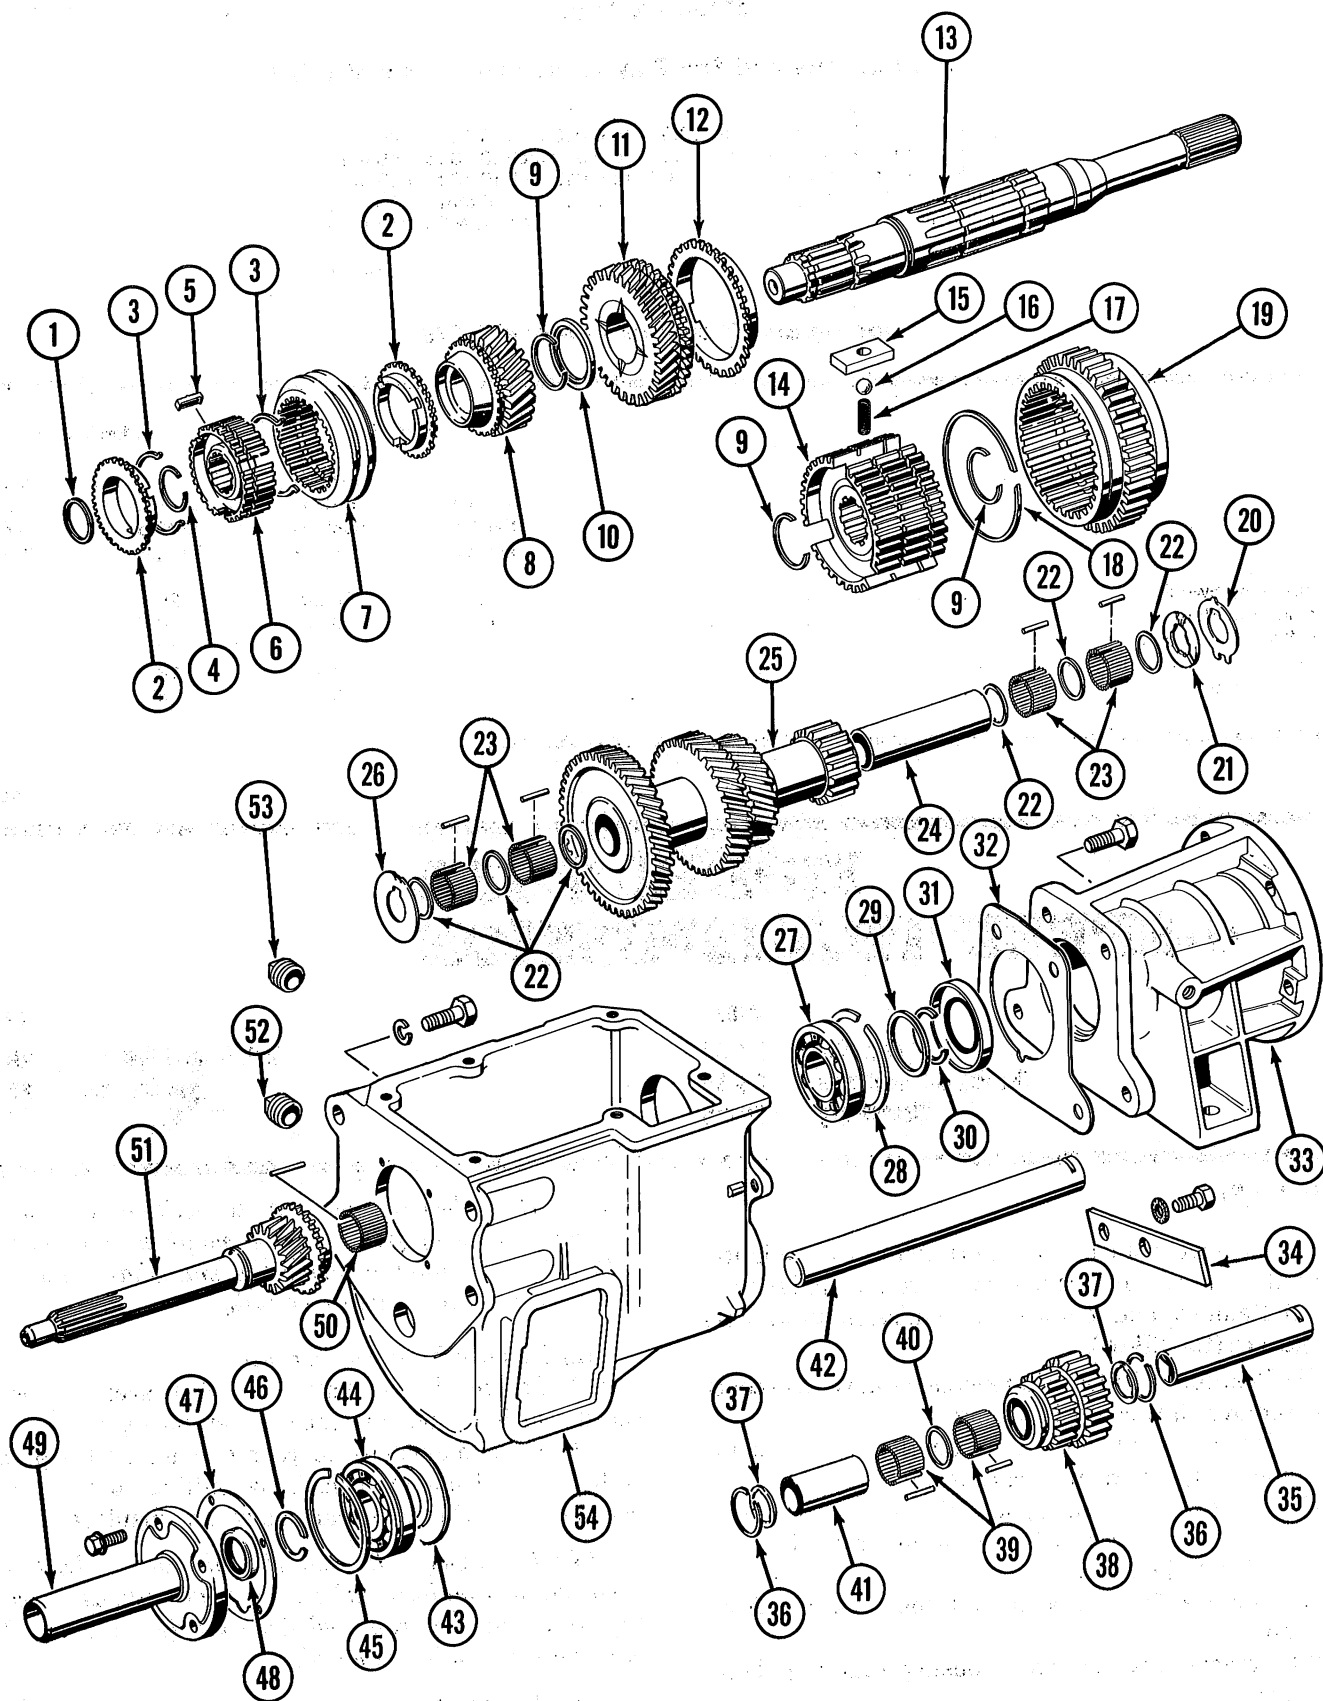

Fig. 2B-69 Model T-18A—4-Speed Transmission
- (15) Remove bearing roller spacer from mainshaft pilot hub (fig. 2B-69).
- (16) Remove mainshaft assembly through top of case.